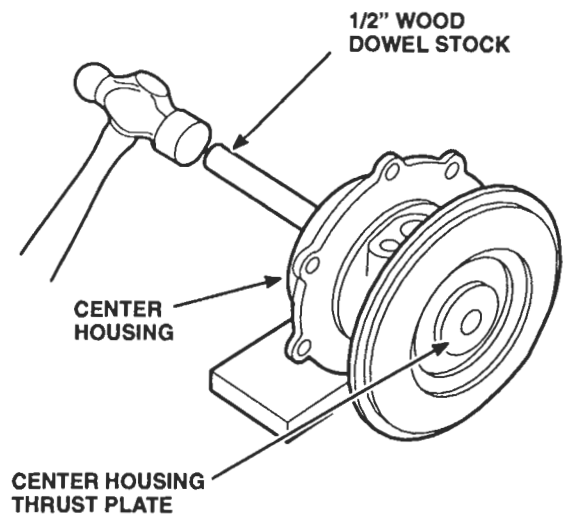

Figure 21. Center Housing Thrust Plate Removal
9. Support the center housing on edge on the work bench (Figure 21.) Then, insert a 1/2 inch wood dowel approximately 8 inches long through the shaft bearings and against the backplate or thrust plate. Tap the thrust plate or backplate out of the center housing with a hammer.